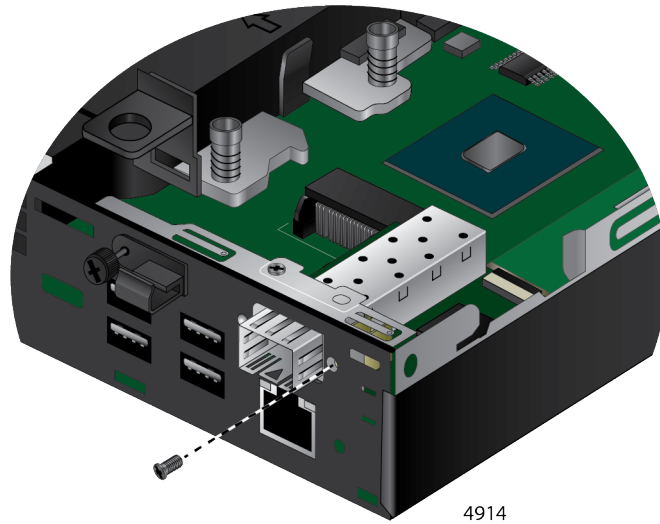

Figure 11. Securing the SFP Board to the Chassis
12. Insert the other SFP mount screw through the chassis into the mounting bracket of the SFP board shown in Figure 11.